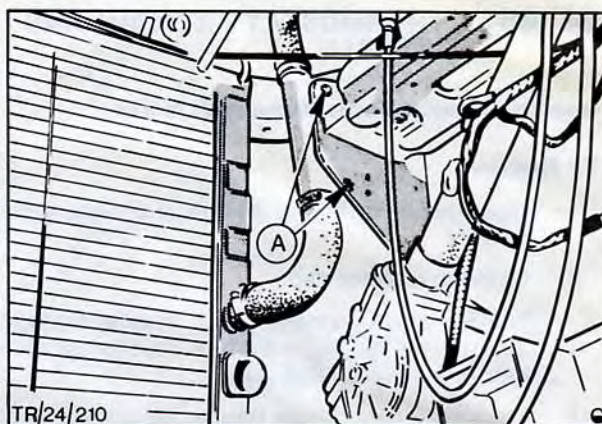

Fig. 21. Hose Removal
4. Remove two bolts securing metal centre section of pipe to inner fender panel, Fig. 21.